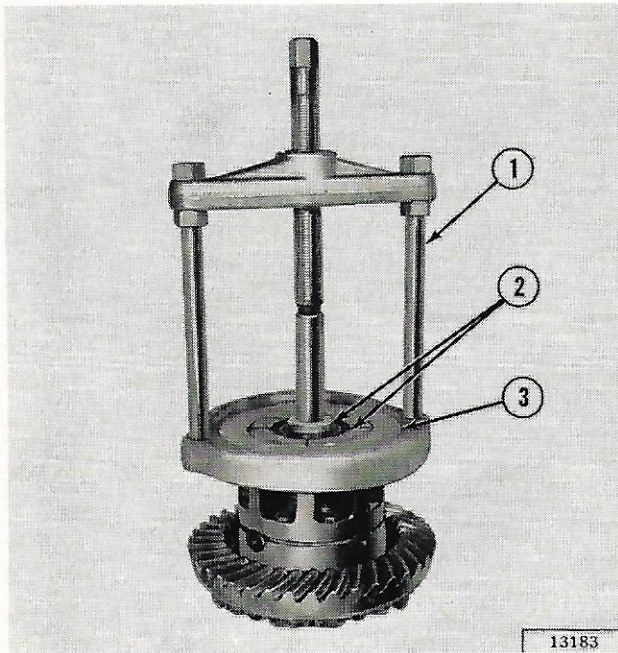

FIG. 11-7—DIFFERENTIAL BEARING CONE AND ROLLER REMOVAL
**a.** To remove differential bearing cones and rollers on model 70 rear axle and model 60 front axle, use Tool DD-914P with Holding Ring DD-914-8 and Adapter DD-914-62, as shown in Fig. 11-7.